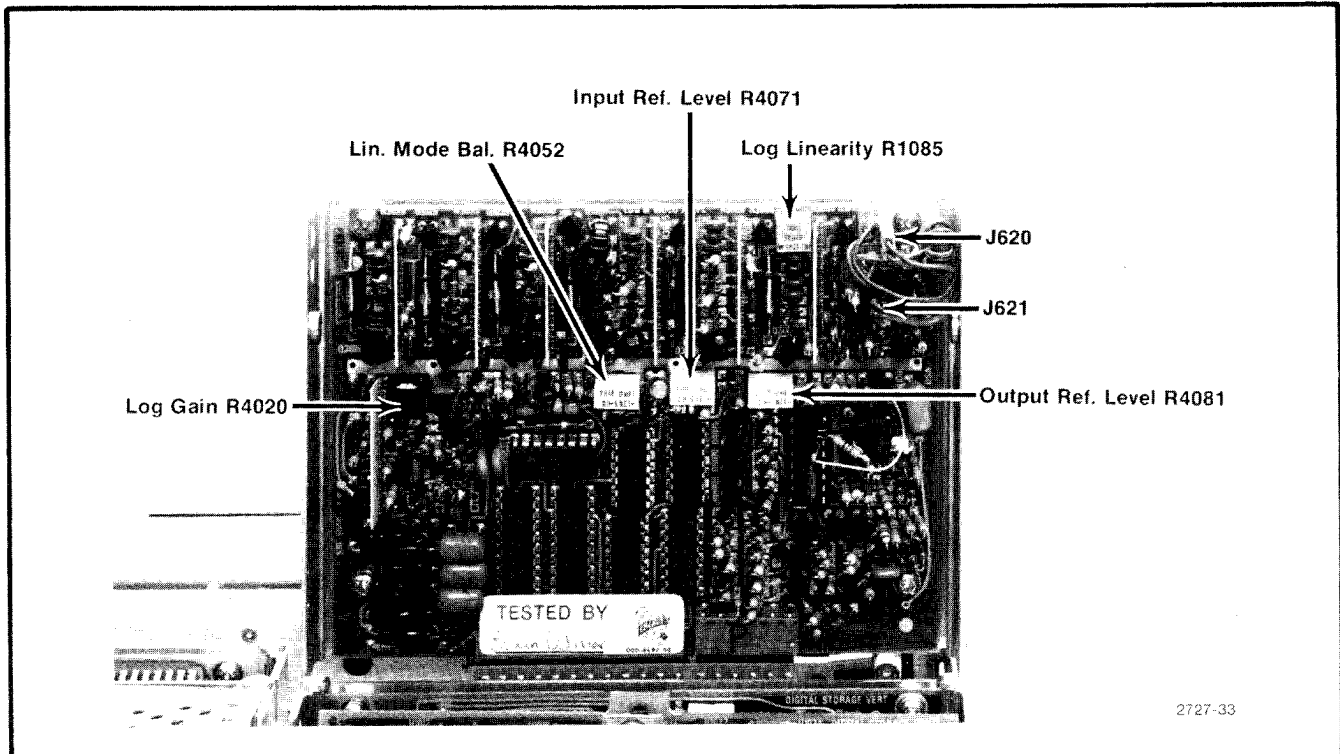

Fig. 3-40. Location of connectors and adjustments on the Log and Video Amplifier.
b. Remove P621 and apply a 10 MHz signal of 0 dBm from the signal generator, through 10 dB and 1 dB step attenuators, to the input of the Log Amplifier at J621 (Fig. 3-40). Set the step attenuators for 50 dB of attenuation.
e. Increase the step attenuators in 10 dB steps. Adjust Log Gain, R4020 (Fig. 3-40), so each 10 dB of change produces a division of change on the display.
g. Alternately switch the Vertical Display between 10 dB/DIV and 2 dB/DIV while adjusting Input Ref Lvl, R4071 (Fig. 3-40), for minimum amplitude change between the two displays.
j. Adjust Output Ref Lvl, R4081 (Fig. 3-40), for a full screen (eight divisions) display.
k. Switch to the 10 dB/DIV mode and set the step attenuators for 40 dB. Adjust Log Linearity, R1085 (Fig. 3-40), so the display is mid-screen.
s. Switch the Vertical Display to LIN and adjust Lin Bal, R4052 (Fig. 3-40), for a full screen display. Display amplitude of LIN, 2 dB/DIV, and 10 dB/DIV display should now be the same.
2) connect the output of VR#2 to the input of the Log Amplifier assembly by connecting a cable from J682 to J621 (see Fig. 3-40);
i. Now disconnect the 10 MHz third converter signal (P693) from the VR#2 input and connect it to the input of VR#1 (J693), through the Seaelectro male-to-male adapter and coaxial cable. Connect the output of VR#1 (P683) through another Seaelectro male-to-male adapter and coaxial cable to the input of the Log Amplifier at J621 (Fig. 3-40).